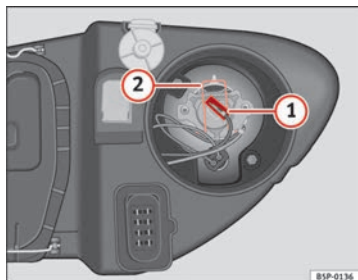

Fig. 193 Main beam headlights
- Remove connector ⇒ Fig. 193 1 from the bulb.
- Press the spring ⇒ Fig. 193 2 inwards and to the right.